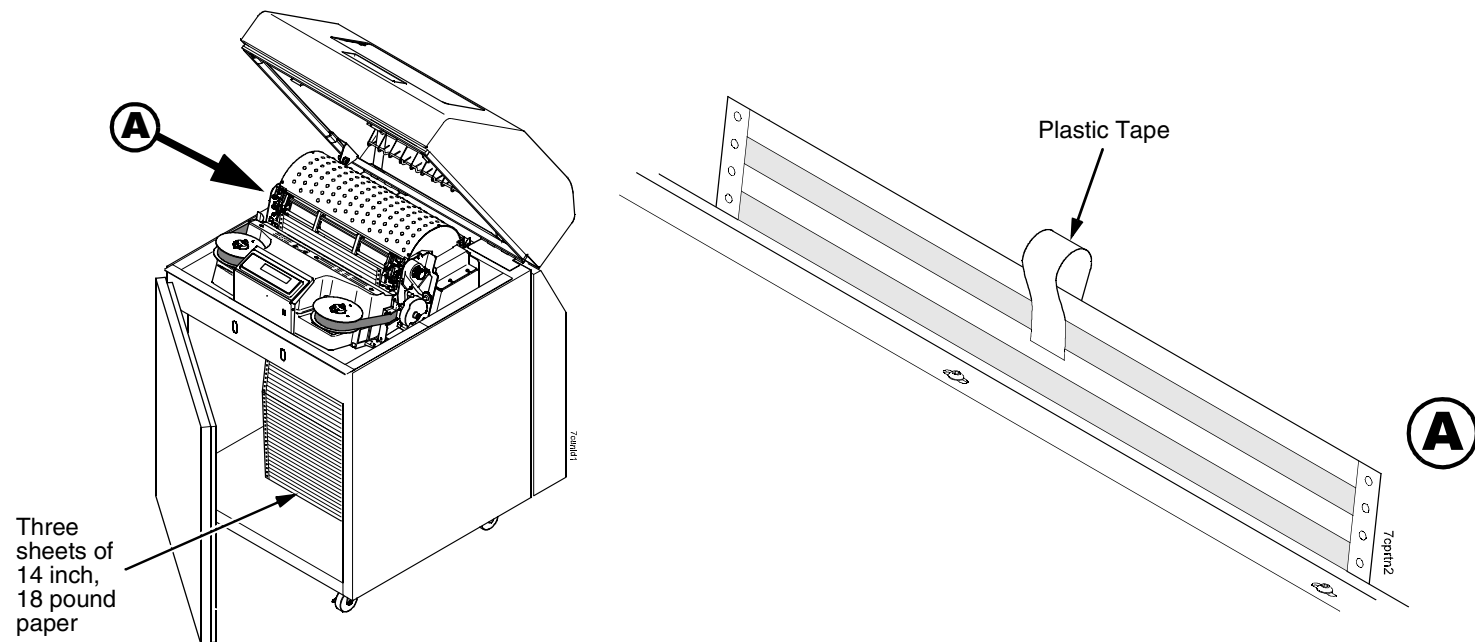

Figure 32. This figure shows how to prepare paper for measuring dynamic paper tension.
4. Prepare a length of 14 inch wide paper consisting of three sheets that are still attached at the perforations. (The paper must be single part, 18 lb maximum weight, 0.0036 inch maximum thickness.) Open the cabinet front door and feed the paper up through the print station until the first page clears the ribbon mask by about one inch. (See Figure 32.)
5. Fold a two-inch piece of plastic tape over the top sheet, mid way between the sides, as shown in Figure 32.